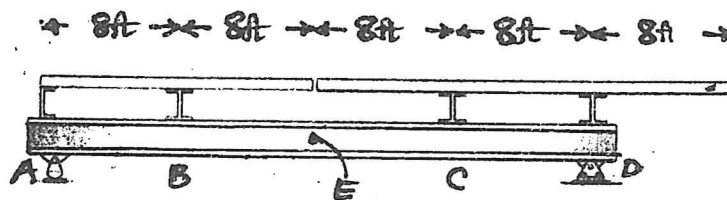

Fig. 14
8. (a) For the floor beam system shown in Fig. 14, draw influence lines for (30)